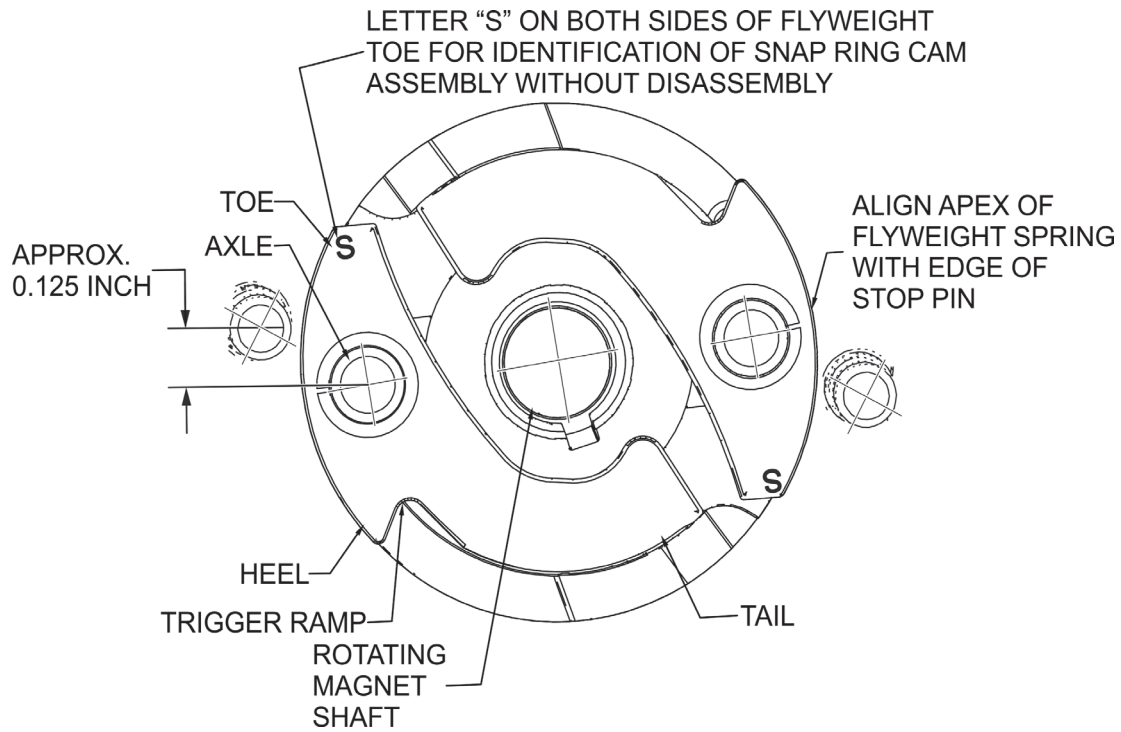

Figure 6-3. Flyweight Terminology
8. Remove the puller. Holding the toe (see Figure 6-3 for flyweight terminology) of the flyweight inward, lift the cam from the shaft.
9. Remove woodruff key(s) (49) from the rotating magnet shaft (61); discard the woodruff key(s).
For all S-1225 and S-1227 series magnetos, inspect snap ring impulse couplings (45) at the first 500 hours in service and every 500 hours thereafter, or inspect riveted impulse couplings (45) at the first 100 hours in service and every 100 hours thereafter. Snap ring cam assemblies may be distinguished by the S mark on both sides of the toe of each flyweight as shown in Figure 6-3.
- a. Rotate the impulse coupling (45) so the flyweight axles are next to the stop pins (57). Position flyweight as shown in Figure 6-3. Lock rotor in place using an 11-8465 Rotor Holding Tool.